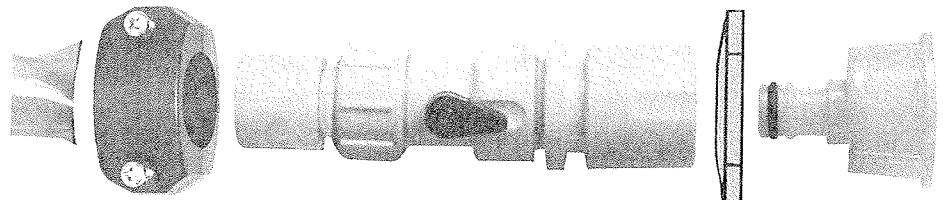

FIGURE 6
- A. Remove the slip-nut holding the "eyeball" in place from the inlet nearest the shallow end. Remove the directional eyeball. Insert the Eyeball Insert Quick-Connect (15) through the slip-nut and attach the Hose Connector Valve Assembly (7). This is your inlet adapter. (Figure 6)